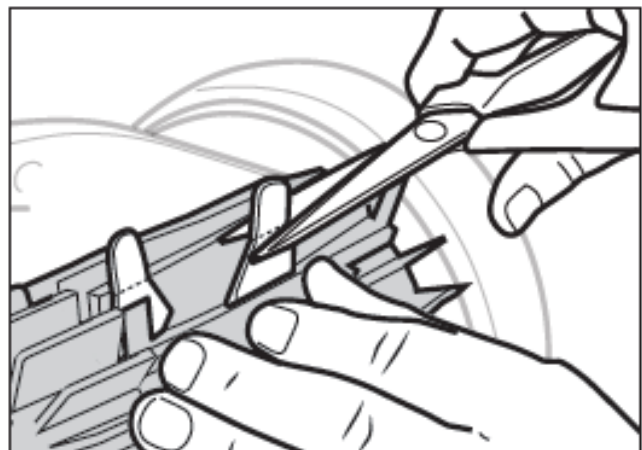

Figure 19. Cut Tabs
4. Use a pair of scissors to cut the tabs 3/4 inch from the heel so that they are no higher than the cleaning blade. (FIGURE 19)